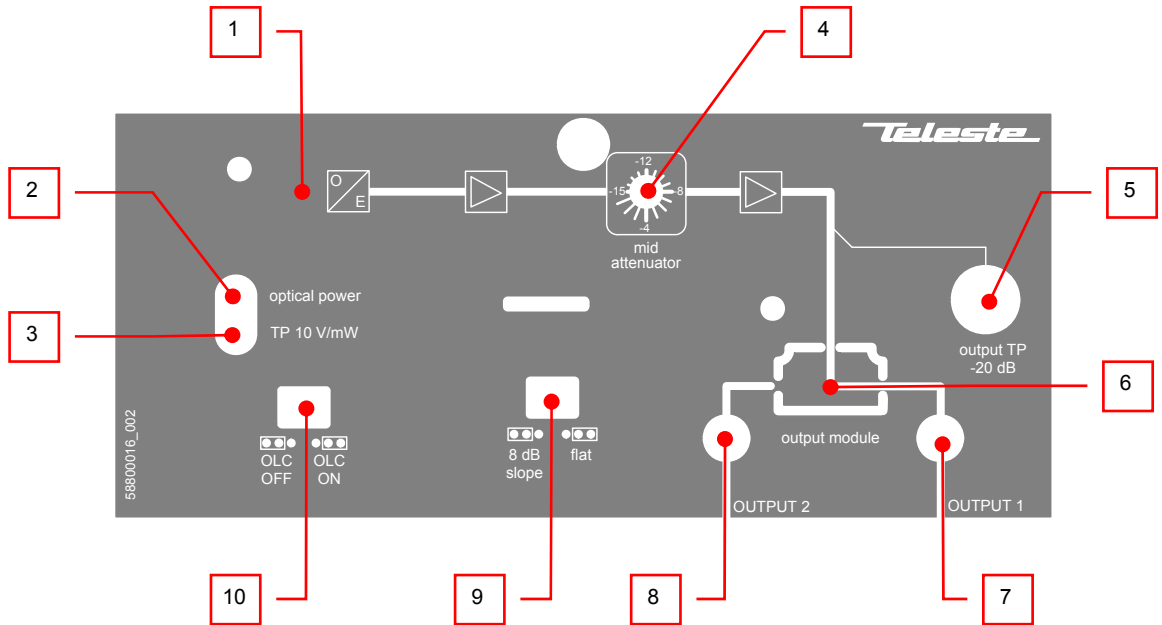

Fig. 3. CXE800 plug-in placement
Optical input power can be measured from the optical power DC voltage test point (Fig. 3 pos. 3). The test point DC voltage is directly proportional to optical input power in mW e.g. 10 V corresponds to 1.0 mW average optical power. Table below shows the correct measurements at the test point using a 1310 nm or 1550 nm transmitter.
The mainboard provides also a LED indicator (Fig. 3 pos. 2) which gives a visual indication of the optical input power.
3. Optical Level Control (OLC) circuitry provides gain control that compensates for changes in input level caused by external variations. The available gain reserve is factory-set for optimum operation. If needed the output level can be adjusted with the midstage attenuator. You can however, set an internal jumper (Fig. 3 pos. 10) to disable the OLC. This enables you to operate the CXE800 optical receiver at full gain for applications that do not require gain stabilization.
5. Use the response mode jumper (Fig. 3 pos. 9) to select the midstage slope. Available options are "flat" or "8 dB sloped".